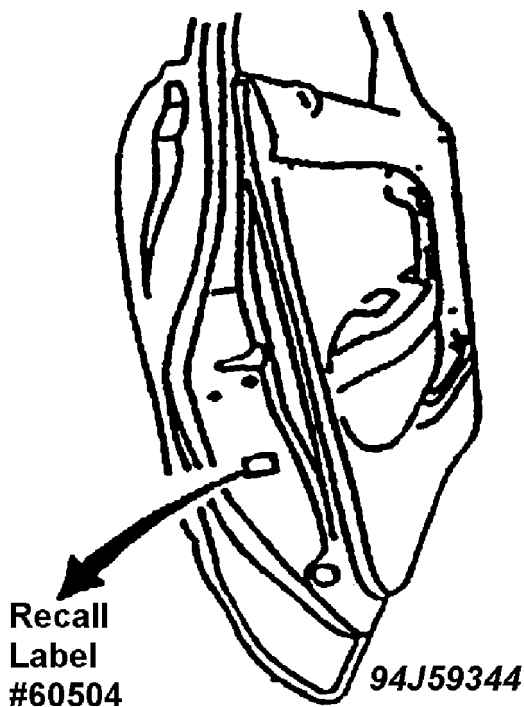

Fig. 31: Recall Label #60504 Identification
36. Affix the recall label (No. 60504) onto the driver's side door for future confirmation that the campaign has been completed on this vehicle. See Fig. 31.